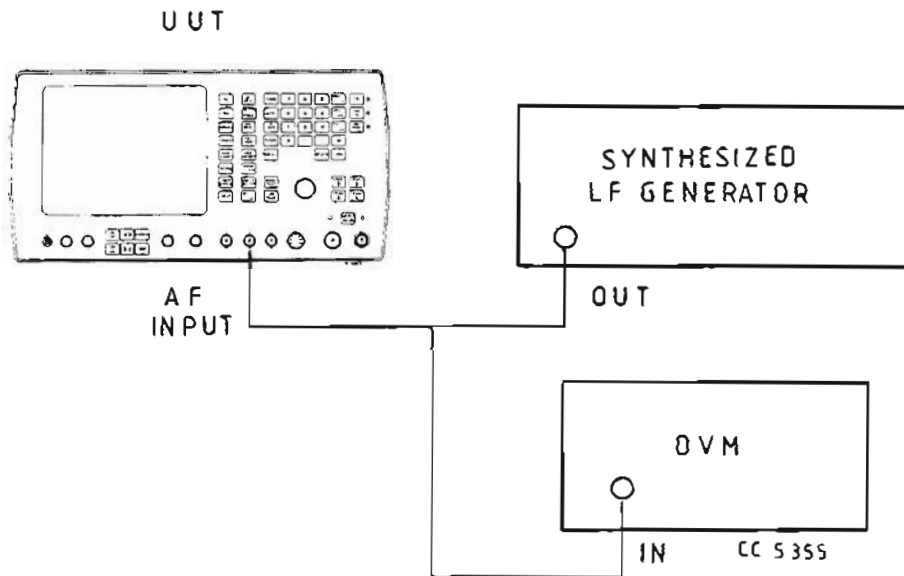

Fig. 8 Test equipment connections for adjusting R209 on AB5
- (1) Connect the equipment as shown in Fig. 8.
- (2) Set the synthesized l.f. generator to give a 1 kHz sinewave and adjust the level for an indication of 0.707 V r.m.s. on the d.v.m.
- (3) Adjust R209 for a 2 V p-p (4 divisions) indication on the 2955 oscilloscope.